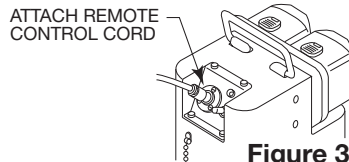

Figure 3
- 3) Then insert the plug of the remote control cord and tighten the ring securely (See figure 3).